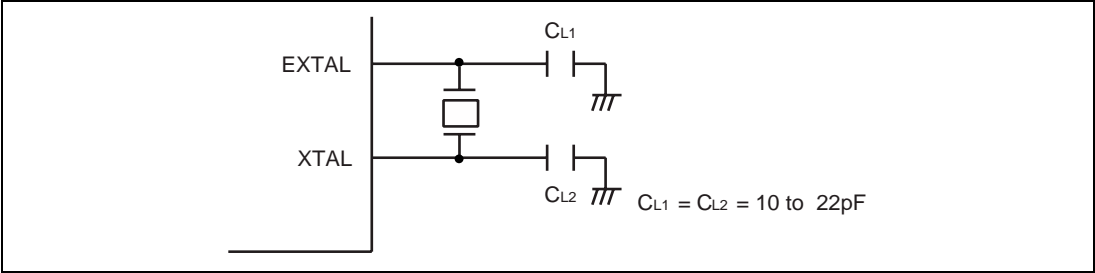

Figure 5.2 Connection of Crystal Oscillator (Example)
(1) Connecting an External Crystal
① **Circuit Configuration:** An external crystal can be connected as in the example in figure 5.2. An AT-cut parallel resonating crystal should be used.